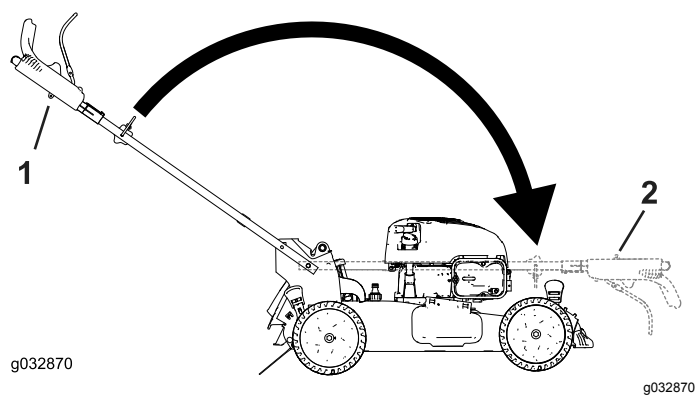

Figure 23
2. Fold the handle by rotating it forward (Figure 23).